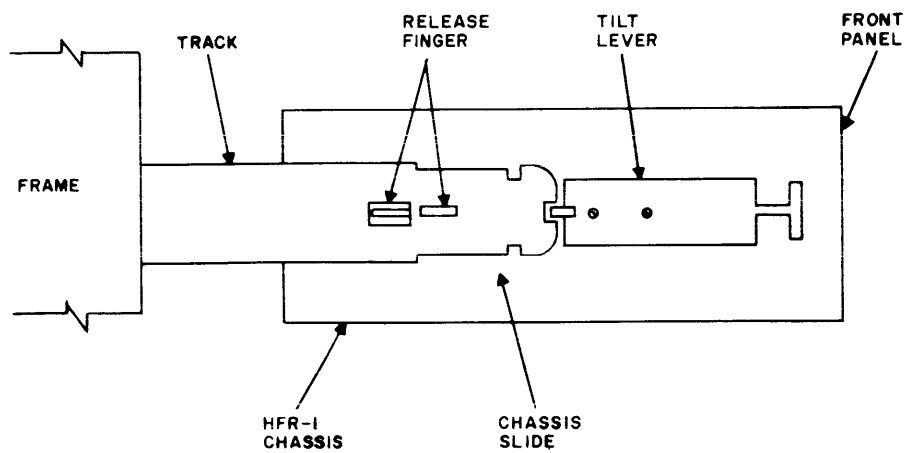

Figure 2-3. Slide-Mounting Details
- (1) Set HFR-1 chassis slide mechanisms in tracks as shown in figure 2-3.
- (2) Slide HFR-1 on tracks until rearward release finger engages holes in track.
- (3) Make the necessary cable and electrical connections as described in b.